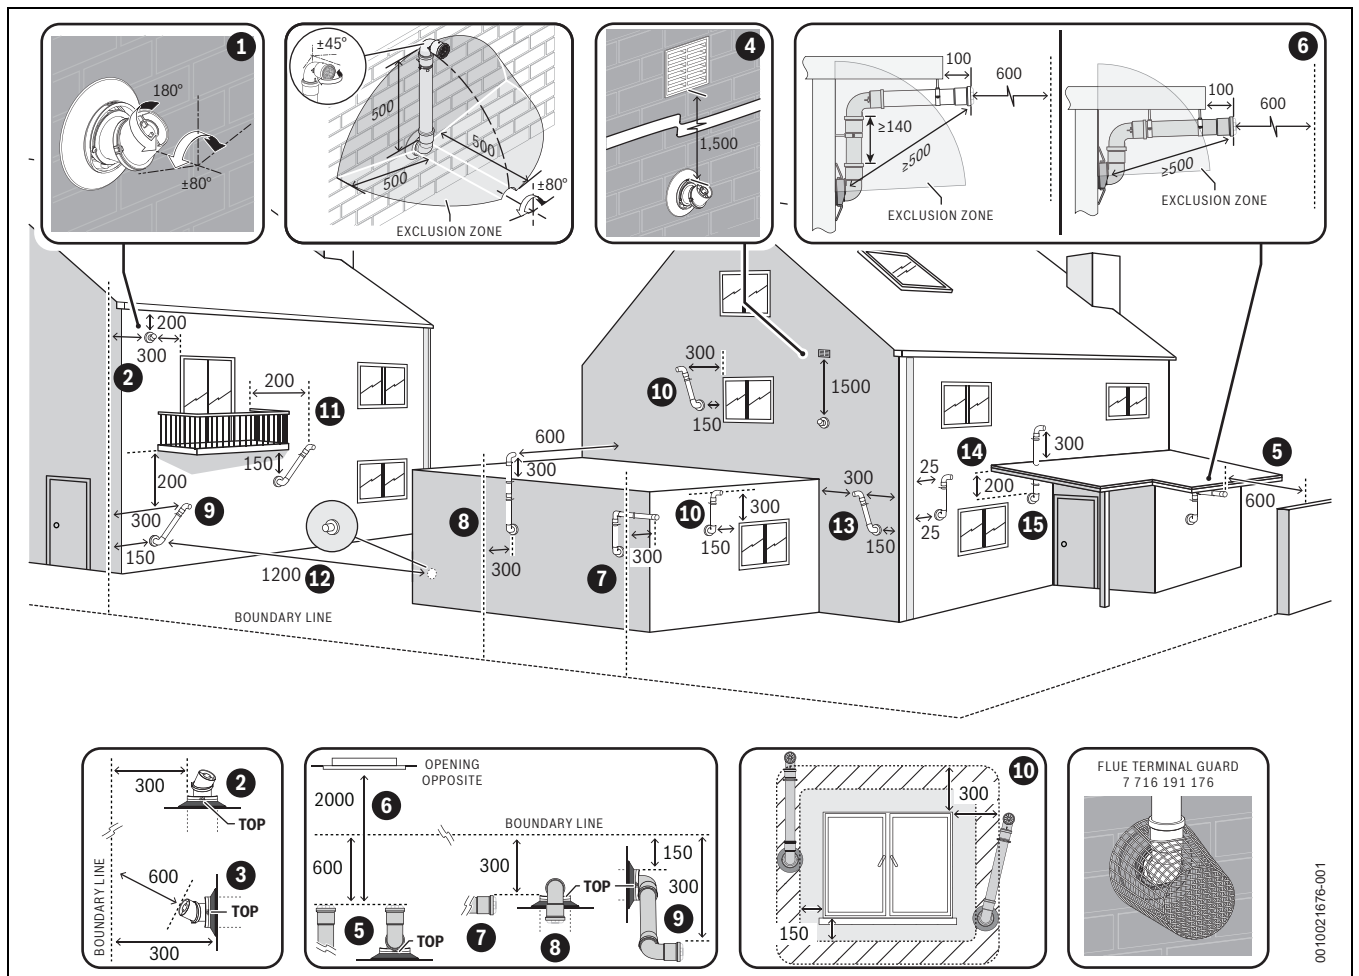

Fig. 28 Plume re-direct and plume management terminal positions
- ▶ Refer to “Horizontal flue terminal positions” for all concentric flue terminal positions unless the flue position is specified in figure 28 “Plume re-direct and plume management terminal positions”.
Key to figure 28 - Plume re-direct terminal positions:
Key to figure 28 - Plume management terminal positions: